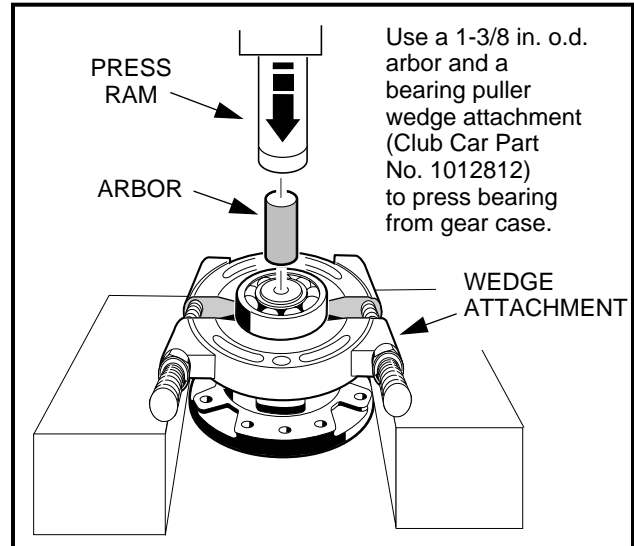

Figure 16-47 Remove Bearing
6. If the bearings (79) are to be removed, place a bearing puller wedge attachment (Club Car Part No. 1012812) between the bearing and gear case (84) (**Figure 16-5, Page 16-4**) and press the bearing off as shown (**Figure 16-47, Page 16-21**). Repeat the process for the bearing on the carrier cover (87) (**Figure 16-5, Page 16-4**). See following **CAUTION**.